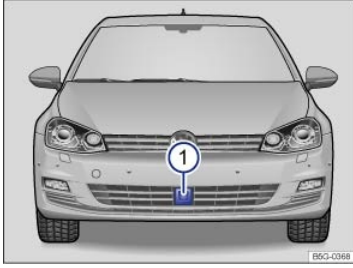

Fig. 165 In the front bumper: Radar sensor.
A radar sensor mounted in the front bumper monitors traffic ⇒ Fig. 165 ① and can detect vehicles traveling ahead up to a distance of about 130 yards (120 m).